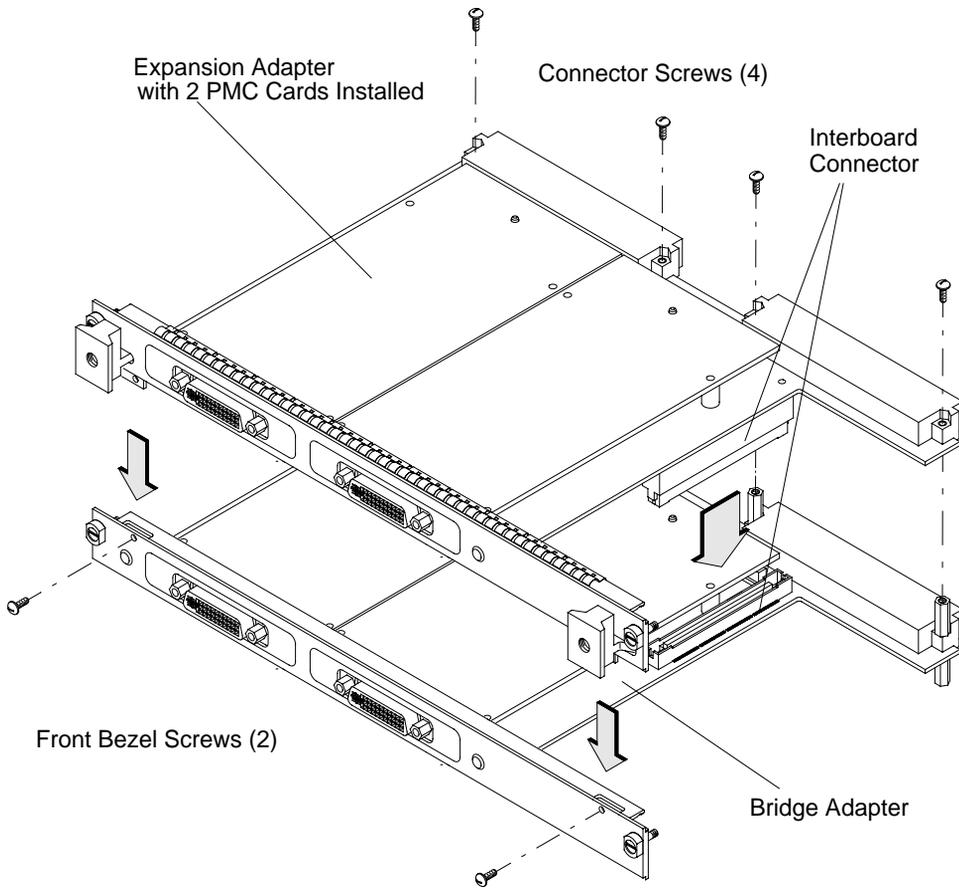

Figure 3
- 9 If you are using both the PMC bridge and expansion adapters, connect them together, making sure that the connector and bezels are properly aligned, as shown in Figure 3. Ensure that the interboard connector seats properly by applying pressure to the top of the expansion board and to the bottom of the bridge board at the interboard connector. There are two screws that secure the front bezel and four screws to secure the backplane connectors.